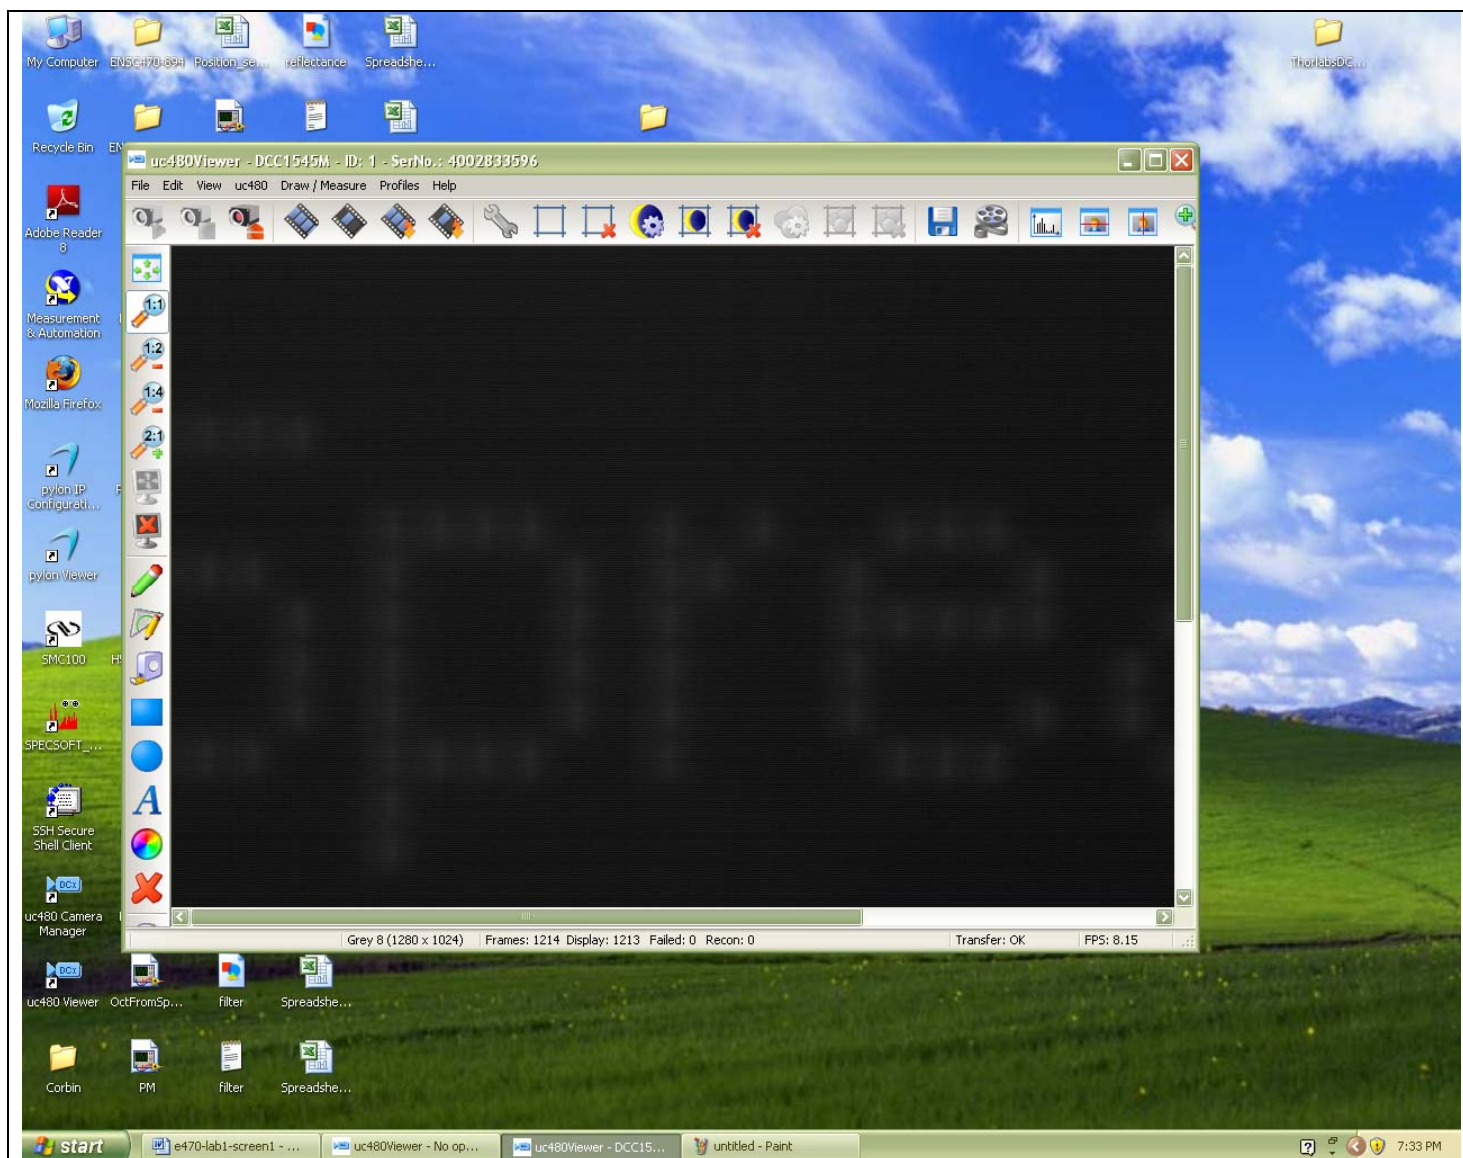

Figure 3: uc480 viewer showing image of the live view of the screen.
4. To get a live view of the image click on the film strip icon (icon row on the top, 4th icon in just after the cameras. (See Figure 3). If the lens is in place you should see a picture of the pixels on the screen of one of the icons titles as shown in the figure. If this does not show it may be because the lenses are not set up – see the Single lens experiment section on the next page. If the viewer is mostly white it may be because the viewer screen has been moved into the image area – move the window to near the top of the screen so the desktop icons show as in figure 3.